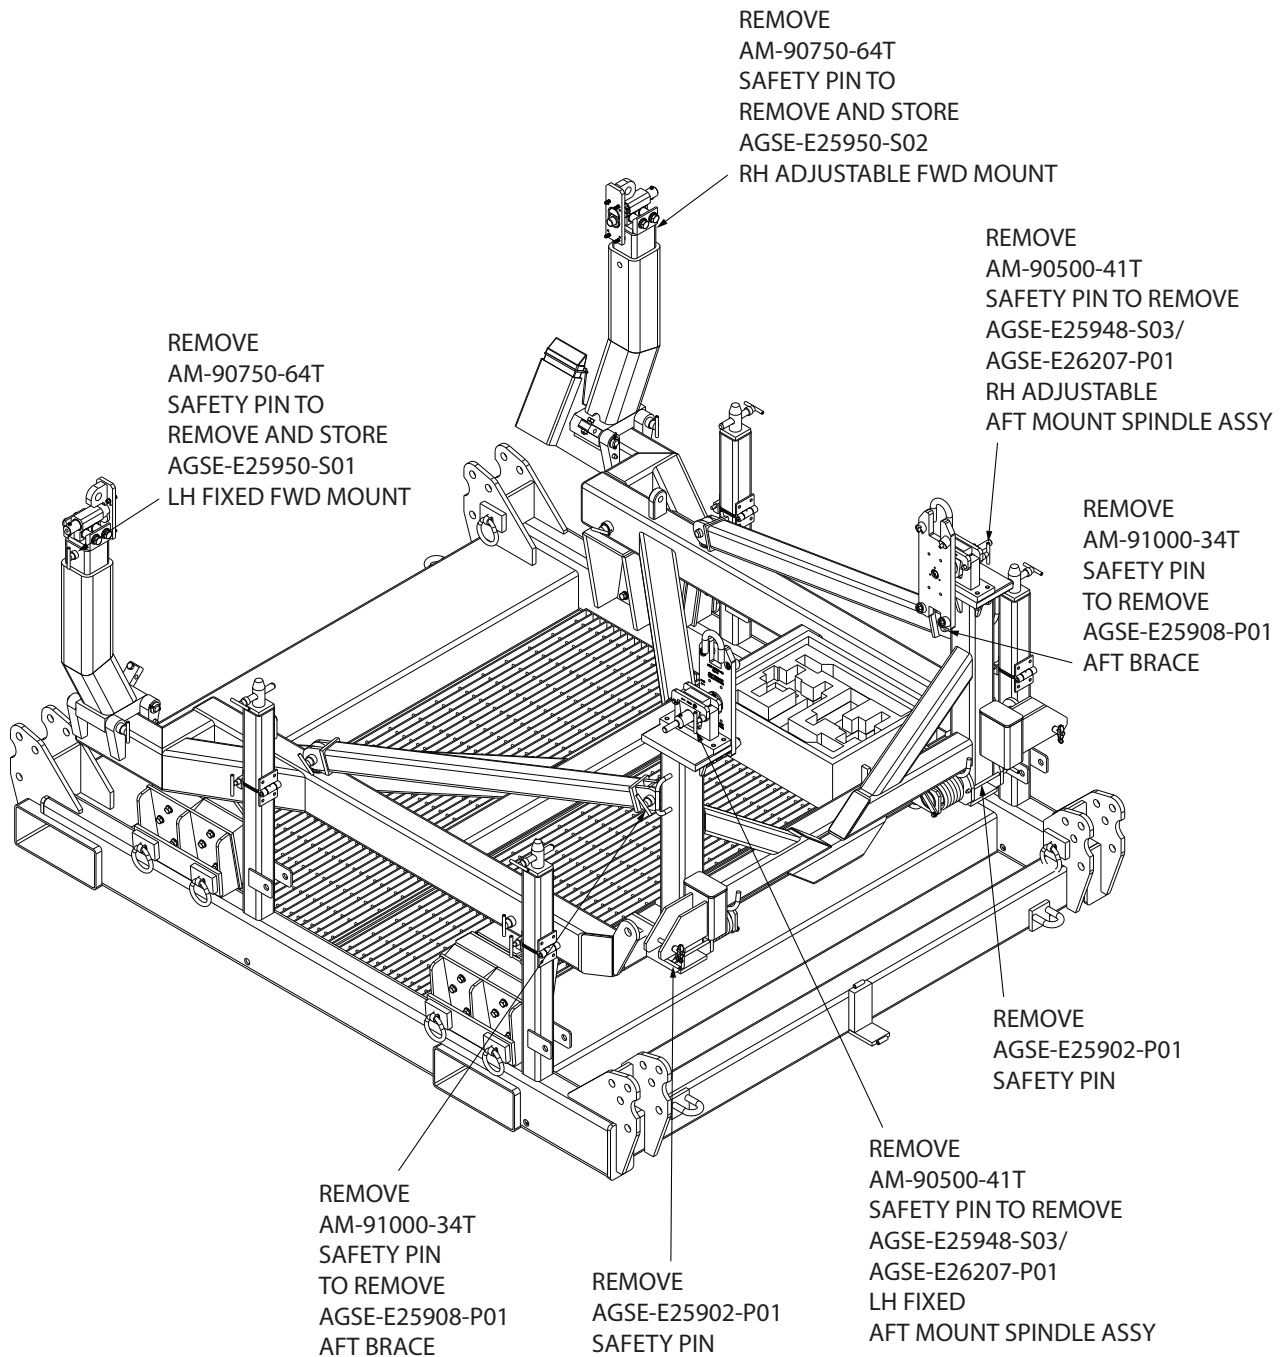
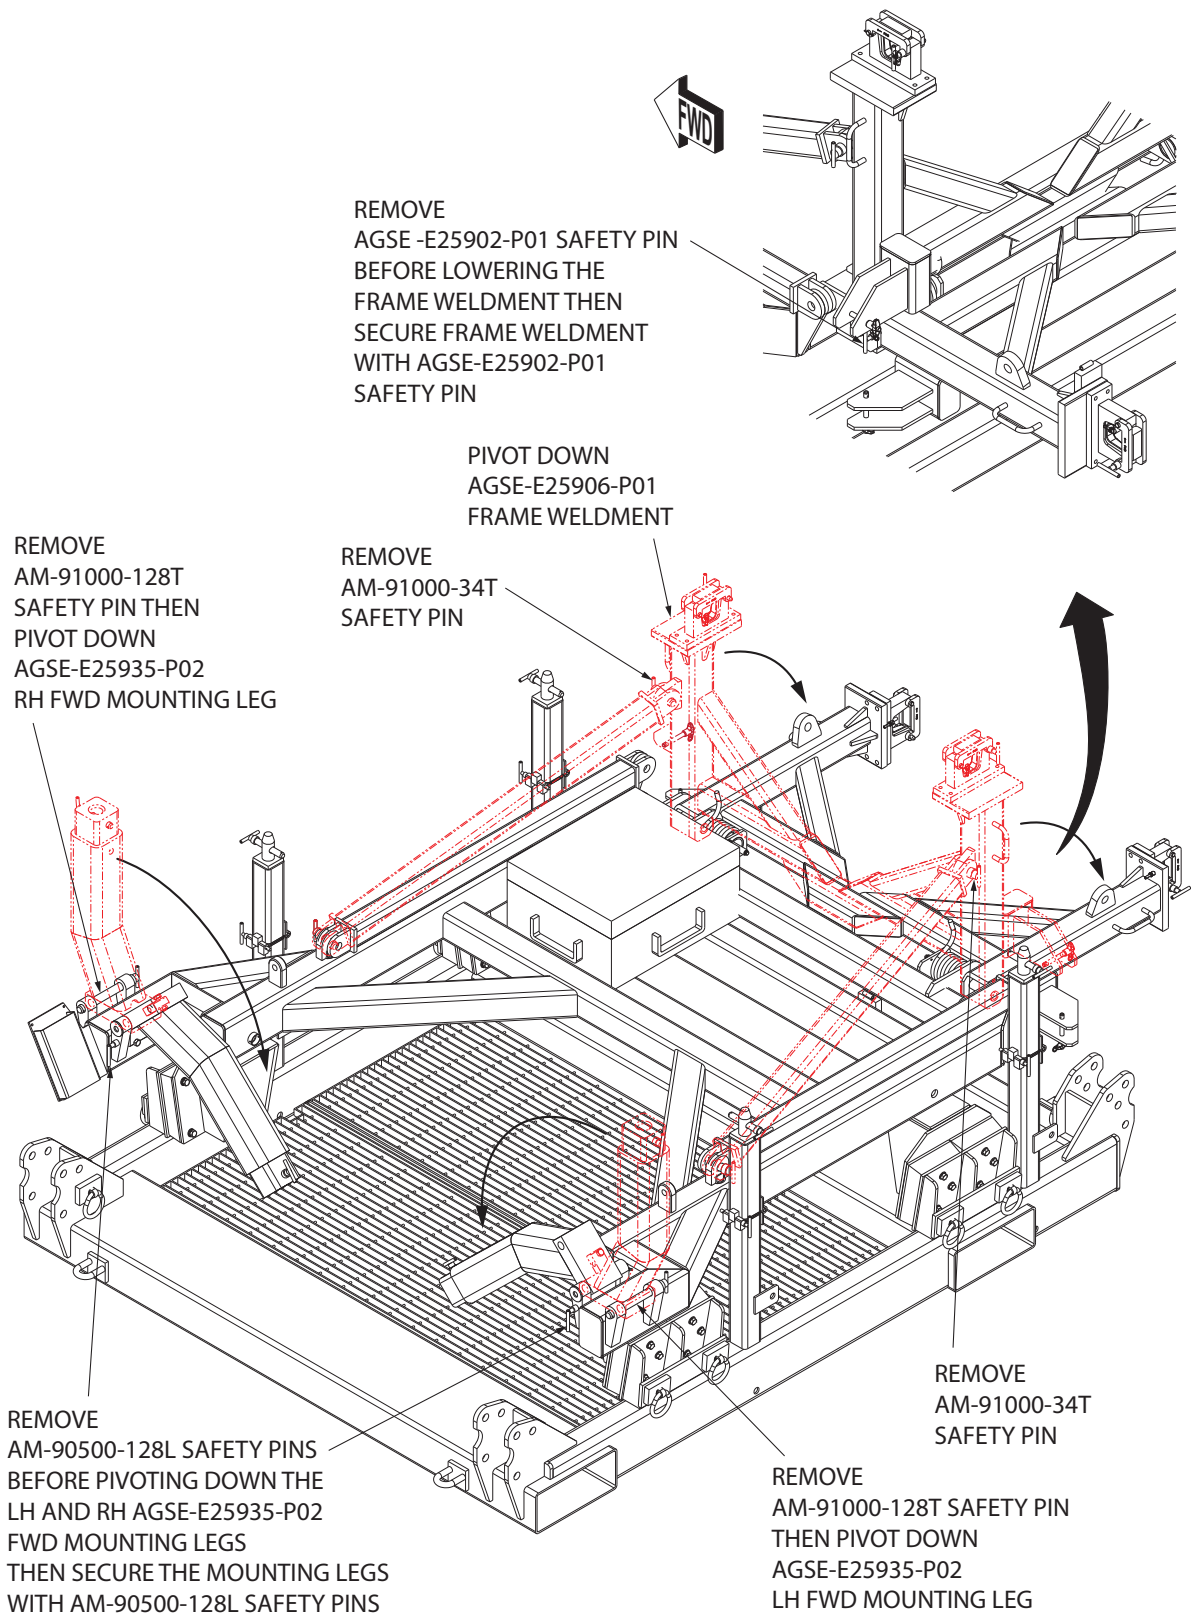

Figure 5.2-1
Figure 5.2-2
- 1) Remove two (2) AM-90750-64T safety pins to remove the AGSE-E25950-S01 LH fixed FWD mount assembly and AGSE-E25950-S02 RH adjustable FWD mount assembly. Store in AGSE-E26210-S01 component storage box. (Illustration Figure 5.2-1).
- 2) Remove two (2) AM-90500-41T safety pins from AGSE-E25949-P01 AFT mount saddle caps to remove the AGSE-E25948-S03 / AGSE-E26207-P01 LH fixed AFT mount spindle assembly and AGSE-E25948-S04 / AGSE-E26207-P02 RH adjustable AFT mount spindle assembly and store in the component storage box.
- 3) Close the two (2) saddle caps and secured on the AFT mount bases with the removed safety pins AM-90500-41T.
- 4) Remove two (2) safety pins AGSE-E25902-P01 from the frame weldment storage location.
- 5) Remove two (2) rear AM-91000-34T safety pins to pivot down the two (2) AGSE-E25908-P01 AFT braces. Secure with the two (2) removed AM-91000-34T safety pins on the cradle lugs as shown in Illustration Figure 5.2-2.
- 7) Remove two (2) AM-90500-128L safety pins from their storage location.
- 8) Remove two (2) AM-91000-128T safety pins.
- 9) Pivot down the two (2) AGSE-E25935-P02 FWD mounting legs until the stowage holes are aligned with those on the cradle frame and install previously removed two (2) AM-90500-128L and two (2) AM-91000-128T safety pins.